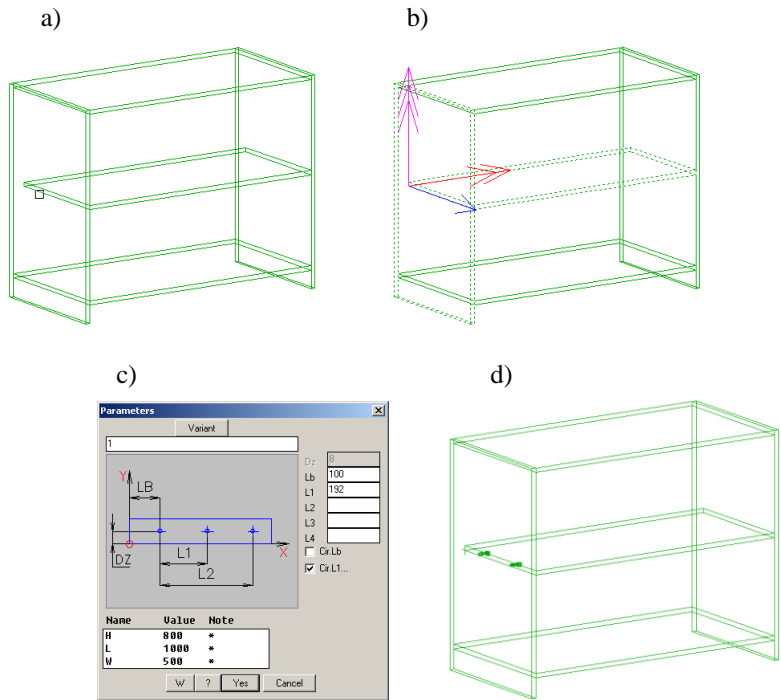

Fig. 3.75. Insertion fasteners by “Shelf edge-part (dialog)”
Perpendicular join. Select edge of base part: Specify an edge of the base Part, see fig. 3.75 a) page 123. The Fasteners will be placed along the specified edge.
**next #L / side #C / base point #N / 2-d part:* Press Enter to confirm the highlighted second Part or specify the second Part by mouse left-click if it was determined incorrectly, see fig. 3.75 b) page 123.
Enter Fastener parameters in the dialog window, see fig. 3.75 c), page 123. The result of the command is presented in fig. 3.75 d).
Changes the base side of Fastener (The Rastex can be fit in the upper or lower Part surface, see fig. 3.75 b)).
Determines distance from the base point to the first Fastener of the Fastener group, see slide in the fig. 3.75 c).
Determines distance from the first Fastener of the Fastener Group to the second Fastener, see slide in the fig. 3.75 c)..
Determines distance from the first Fastener of the Fastener Group to the third Fastener, see slide in the fig. 3.75 c).
Note. To increase quantity of the “L” field in the dialog window, see fig. 3.75 c), click “W” button and edit the “List length 3...15” field. If you have to insert more than seven Fasteners, it is convenient to use **Object >> Furniture fitting >> Shelf edge-part (point by point)**
Note. You can use variables in the Fastener parameters to create a parametrical furniture model. The available variables are present in the “Variable list” in the bottom of the “Parameters” window (fig. 3.75 c) H, L, W variables).